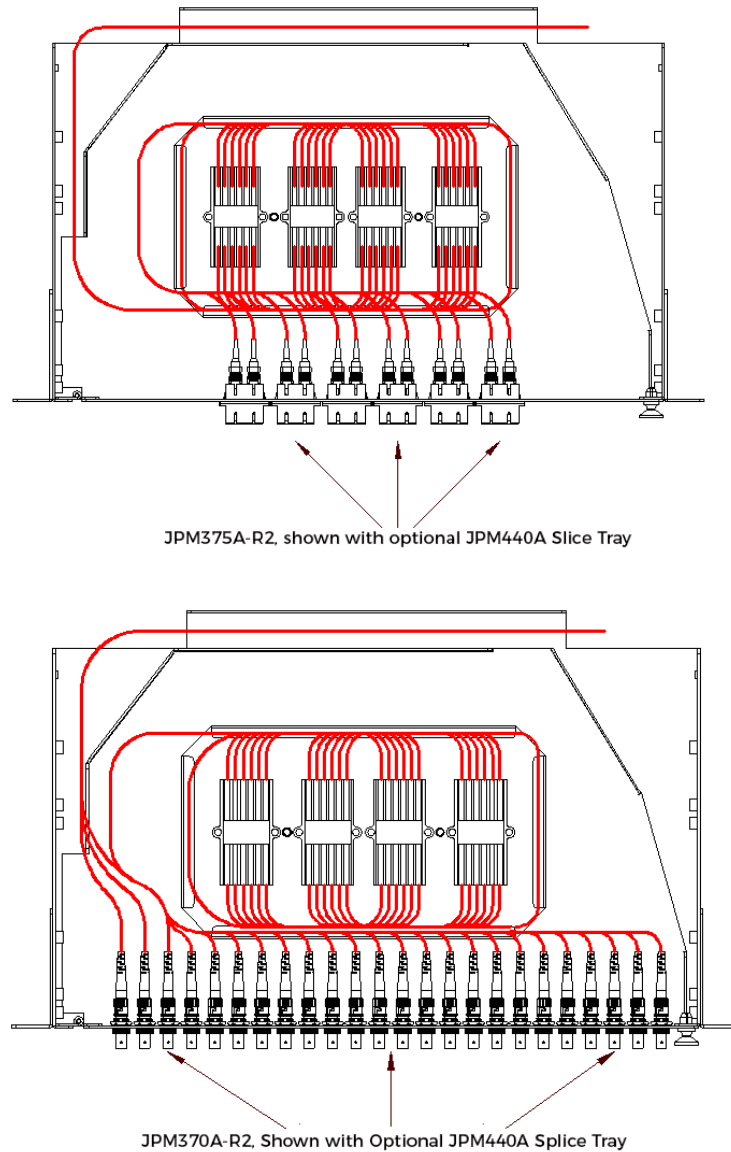

FIGURE 3-2: TERMINATED CABLE CONNECTED TO THE FIBER ADAPTER
9. Terminate the multipair fiber cable and connect it to the fiber adapters. See Figure 3-2 below.